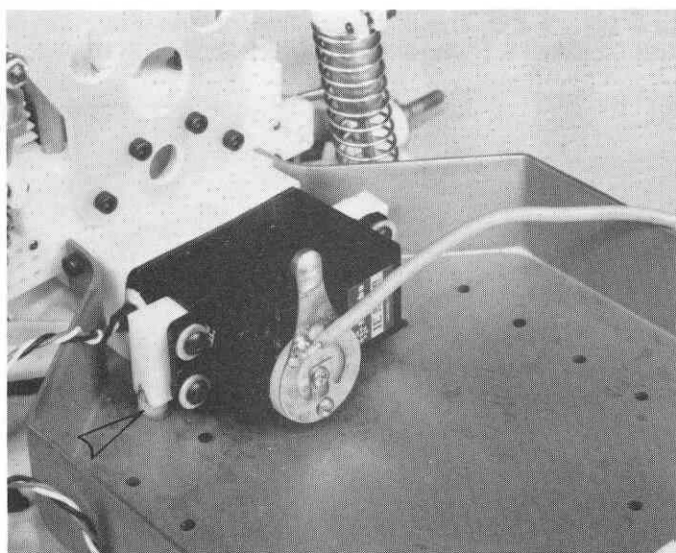

Fig. 170
□ **Fig. 170** S27 servo installed. Use spacers under the mounts to make sure the servo wheel and wiper clear the chassis by about 1/8" (3.1mm).